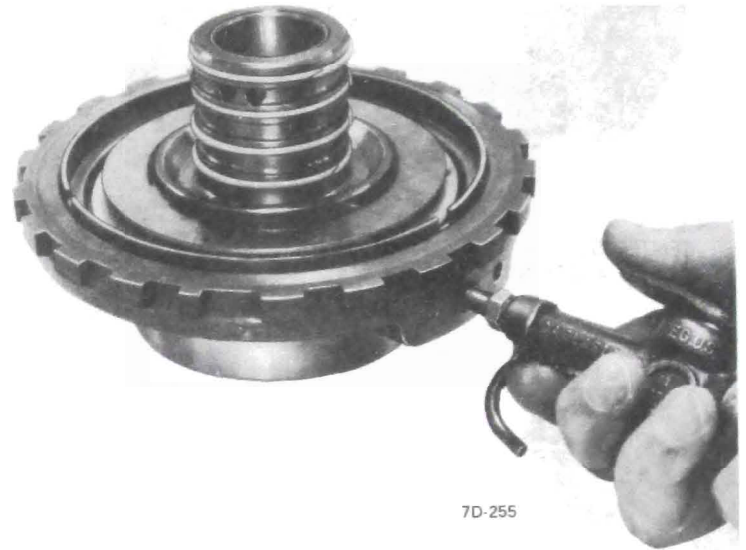

Figure 7D-255
8. Air check operation of intermediate clutch piston. See Figure 7D-255.
9. Install center support into roller clutch in reaction carrier. See Figure 7D-160.